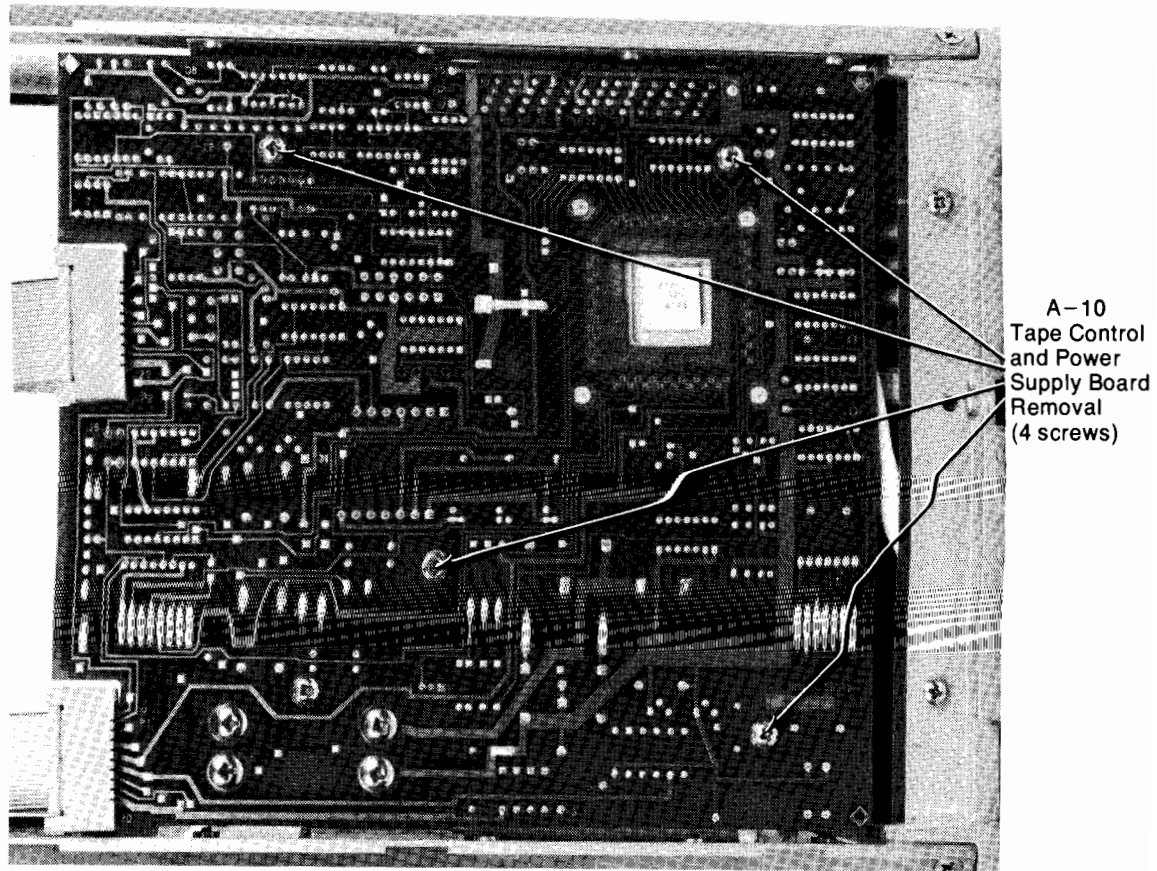

Figure 4-5: Tape Control and Power Supply Board Removal
The tape control and power supply board can be removed by removing the four retaining screws as shown in Figure 4-5. Disconnect the ribbon cables from the processor board and the transport assembly. The two (2) molex connectors must be disconnected from the transformer and the motor drive.